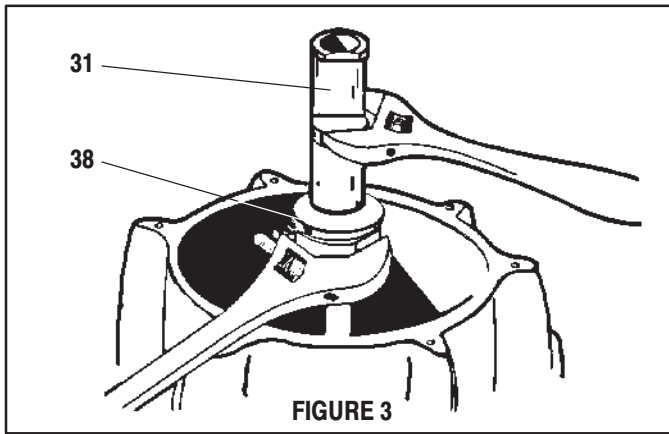

FIGURE 3
16. Disassemble (31) valve piston from (38) adapter as shown in figure 3.
26. Fit the turned diameter of the 90350 special installation tool into the bore in the bottom of (19) head assembly.
27. Place (38) adapter assembly down over (36) extension rod, with the thread on the (38) adapter up.
28. Insert (32) washer into the groove on the top of (36) extension rod.
29. Pull (38) adapter up around the (32) washer.
30. Place (17) washer over (36) extension rod and onto (38) adapter.
31. Clean with solvent and put Loctite 271 on the threads of (38) adapter. Screw (31) valve piston onto (38) adapter and tighten (see figure 3).
32. Push the assembled (38) adapter and (31) valve piston down thru the 90350 special installation tool until it bottoms.
34. Install (33) gland assembly over the (31) valve piston and push down, being careful to retain (34) seal in the "O" ring groove.
35. Align the two screw holes and secure (33) gland assembly to (19) head assembly with two (6) screws and two (7) lock washers.
36. Insert (13) insert spring assembly into the (19) head assembly, with the hooks down and the nylon roller toward (31) valve piston.